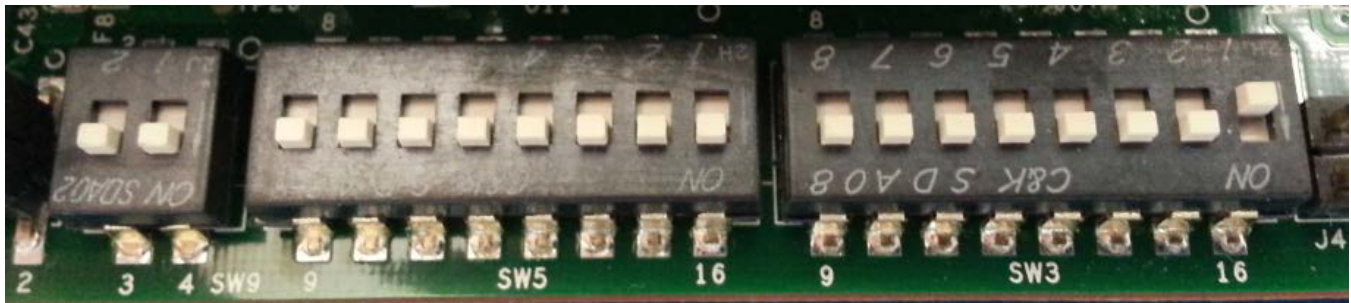

Figure 2. Switch Setting for No-Boot, Little Endian Mode
1. First, unpack the EVM from the shipment box, and set the DSP bootmode to no-boot mode by following the pin setting at [http://processors.wiki.ti.com/index.php/TMDSEVM6657L\\_EVM\\_Hardware\\_Setup](http://processors.wiki.ti.com/index.php/TMDSEVM6657L_EVM_Hardware_Setup). Note that pin1 of SW3 defines the endianness of the system. Figure 2 illustrates the setting of no-boot mode with Little Endian, and the test example described in this design uses Little Endian. The customer may also switch the setting to Big Endian and use the Opus Big Endian package.